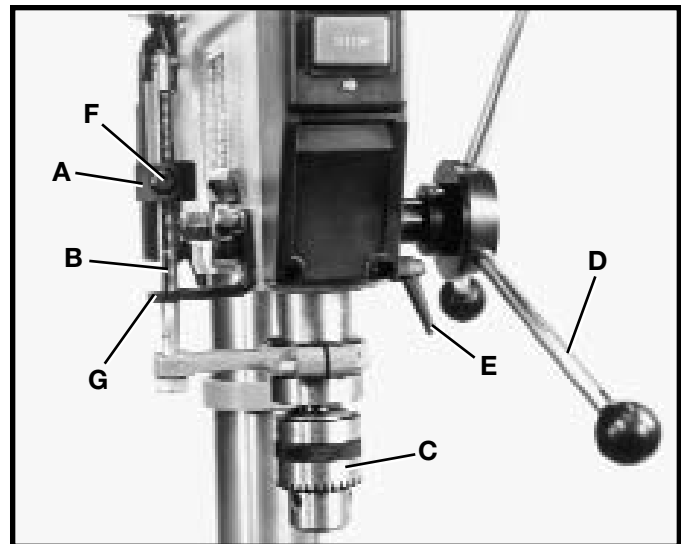

Fig. 26
Where a number of holes are to be drilled to exactly the same depth, the stop nut (A) Fig. 26, on the threaded stop rod (B) is used as follows:
1. Lower the chuck (C) Fig. 26, and drill bit to the depth you wish the drill bit to be by rotating the pinion shaft handles (D). Then lock the quill in position by tightening quill locking lever (E). **NOTE:** Quill locking lever (E) is spring-loaded and can be repositioned by pulling out on the handle and repositioning the hub of the handle on the nut located underneath the hub.
2. Depress spring-loaded button (F) Fig. 26, and rapidly move stop nut (A) until bottom of nut (A) contacts stop (G). Then loosen quill locking lever (E) and chuck and drill bit will return to the up position.
3. Drill a test hole to check the adjustment and readjust if necessary by rotating stop nut (A) Fig. 26, for fine adjustment. It is not necessary to depress button (F) while rotating stop nut (A) for fine adjustment.